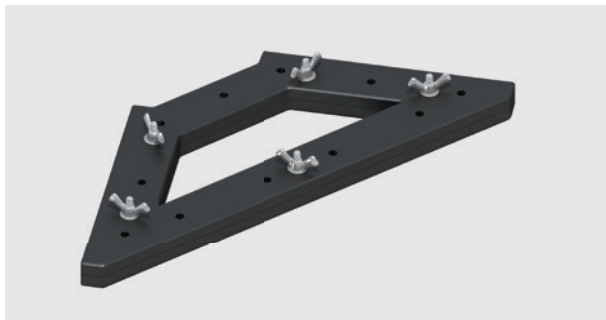

Figure 42: Profile Bracket - Black
- A Jointing Strip (Figure 42) should be used to align and connect the two abutting sections as sections are being built-in.